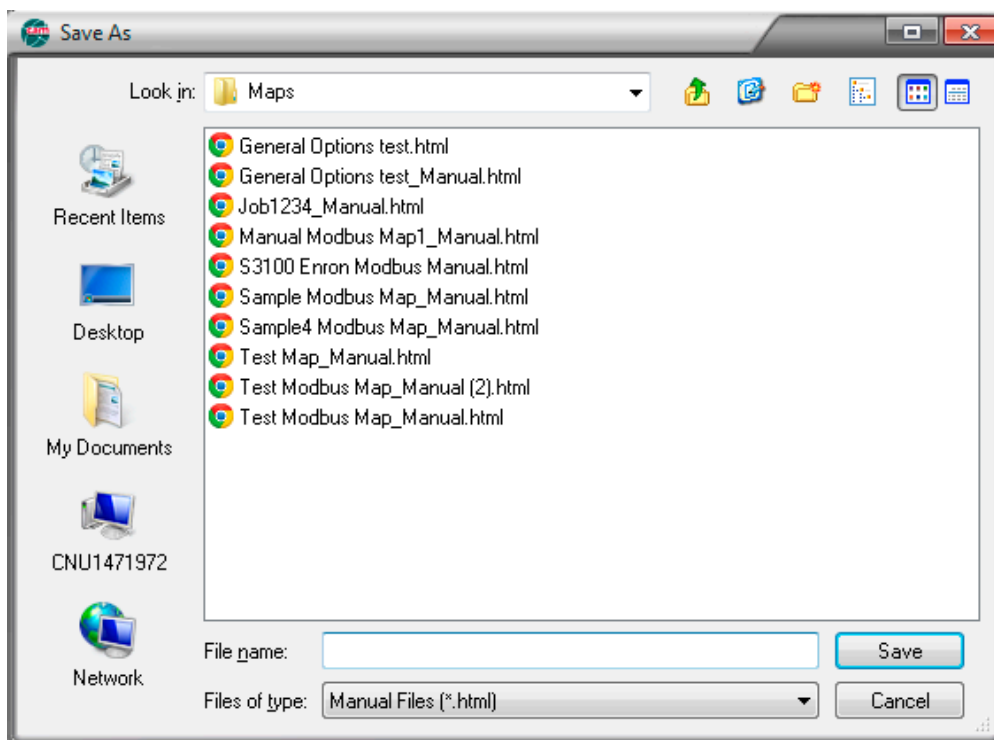

Figure 5.2—Save As dialog when creating a manual only
- When the *Save As* dialog (Figure 5.2) appears, enter the desired name in the “File Name” field.